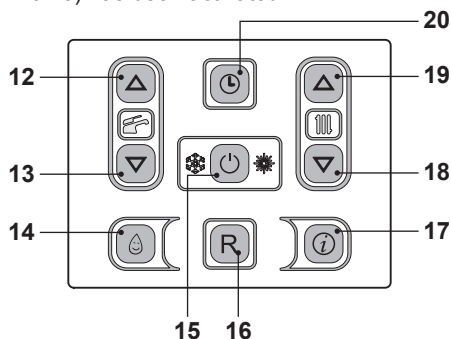
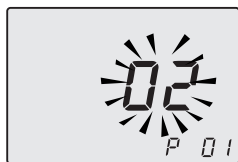

Fig. 10.22
Fig. 10.23
- Enter in "programming mode" by sequentially pressing and holding in keys, 15 - 18 and then 19 (Fig. 10.22) for 10 seconds until the letters **P01** are displayed on the LCD display, indicating that "parameter 01" (Fig. 10.23) has been activated.
- Press keys 18 and 19 (Fig. 10.22) at the same time until the LCD display displays the letters **LP** that alternate with the heating water temperature value (e.g. **45**), indicating the activation of the "flue sweep function" at minimum output (Fig. 10.24).
- By pressing 19 (Fig. 10.22) it is possible to change power in flue sweep mode: with the letters **hP** on the LCD display which alternate between the heated water temperature (i.e. **32**), we are in the "flue sweep function" at the minimum power during heating (Fig. 10.25).
- Press keys 15 - 18 - 19 (Fig. 10.22) at the